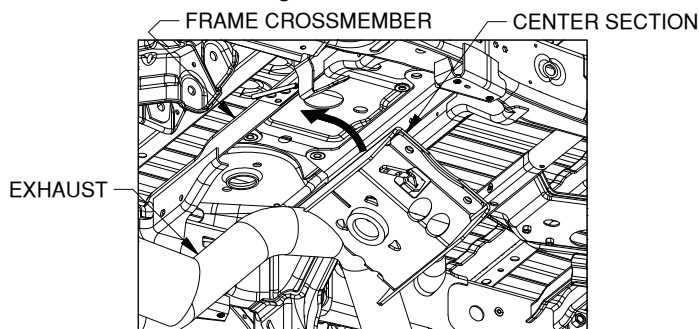

Figure B5: Looking up at the bed from forward of driver side tire.
- 3. Install the center section.** With the latch pin mechanism on the drivers side, raise the center section into place as shown, see Figure B5. In order to clear structures under the truck bed, the center will have to be lifted into place on an angle over the exhaust, then positioned directly under the frame cross member so that the raised portion of the center can be pushed straight up through the hole in the frame cross member, and through the hole in the plastic spacer block. Having assistance in the bed to guide the top of the center section is recommended. Line the 4 holes in the center section up with the frame holes and the holes in the fastener handles. Thread a 5/8" flange head bolt into each hole.